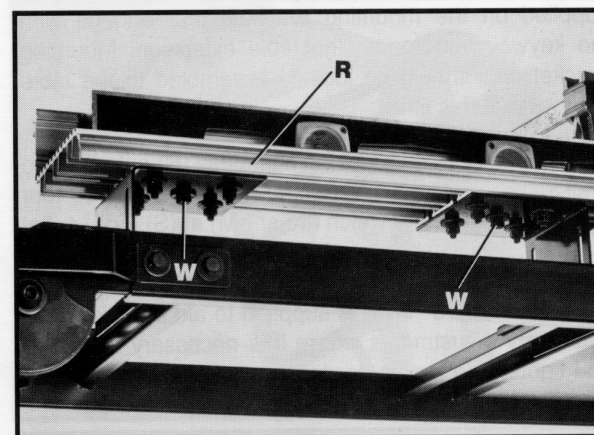

Fig. 17
15. Position the table extension (R) Fig. 17, to the desired position left or right and tighten the two screws (W).